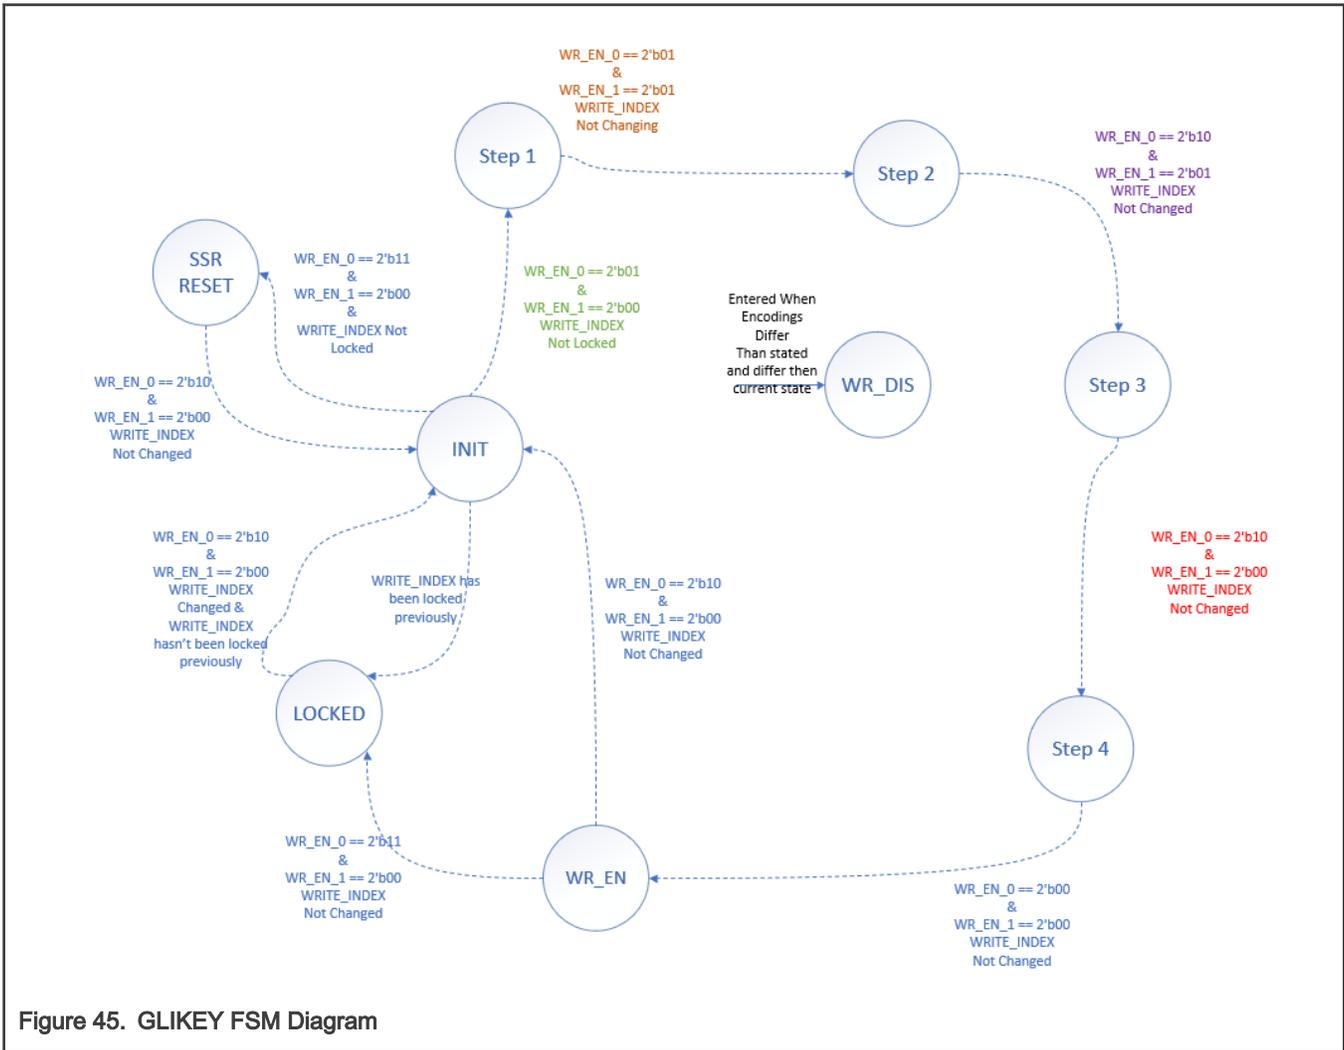

Figure 45. GLIKEY FSM Diagram
- FSM to include 4 steps as mentioned in Figure 45